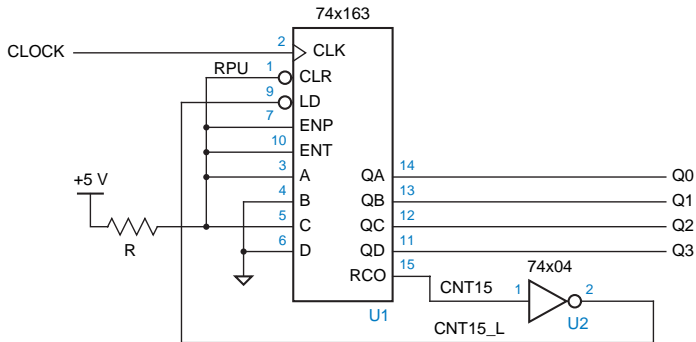

Figure 28: Using the 74x163 as a modulo-11 counter with the counting sequence 5, 6, ..., 15, 5, 6, ...
- Fig. 28 shows one way of using '163 as a modulo-11 counter